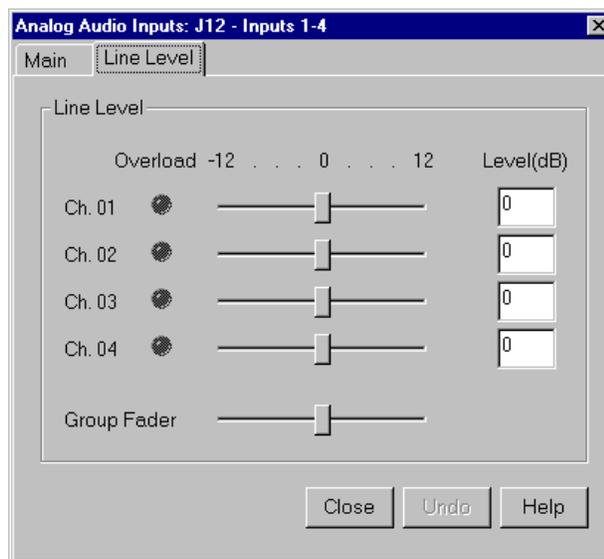

**Figure 27.** Analog Audio Input dialog box, Main tab
1. Expand **Audio Input**, and then click one of the Analog Channels. The Analog Audio Input dialog box appears (Figure 27). The channel numbers on the left refer to the physical input connectors on the audio input box. **Ch. 01** refers to the first connector, and **Ch. 02** refers to the second connector, and so forth.